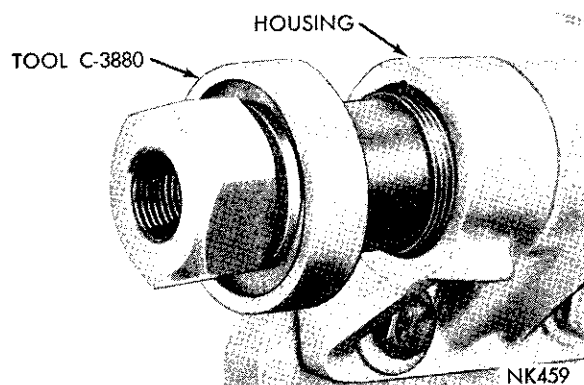

Fig. 13—Removing Cross Shaft Oil Seal
(2) Slide threaded adapter over end of cross shaft and install nut portion of tool on shaft. (Fig. 13).